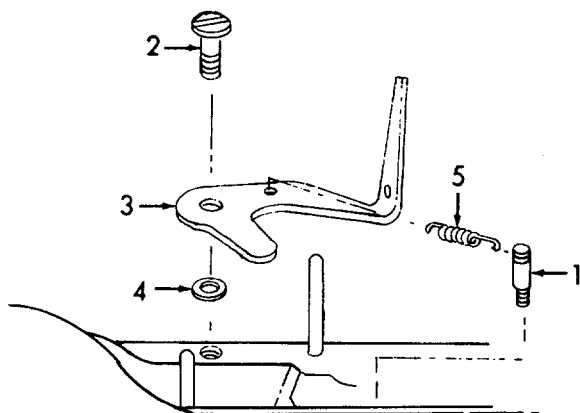

Figure 6-119. Front Thread Tension Lever, Removal.
(12) Refer to Figure 6-119. Remove spring post (1).
(13) Remove screw (2), lever (3), and washer (4).
(14) Remove spring (5).